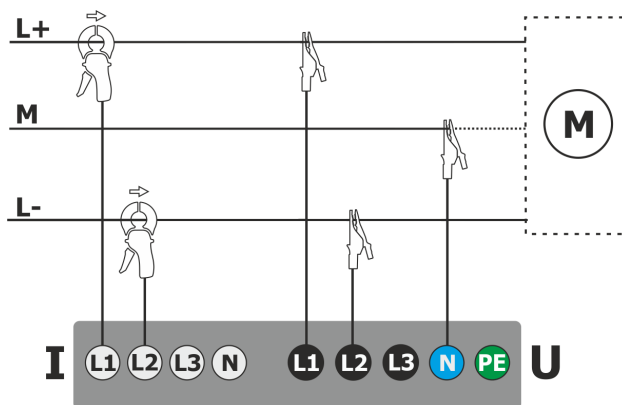

Fig. 46. Wiring diagram – DC+M system (bipolar).
- DC+M – two-voltage DC system with middle point (Fig. 46)